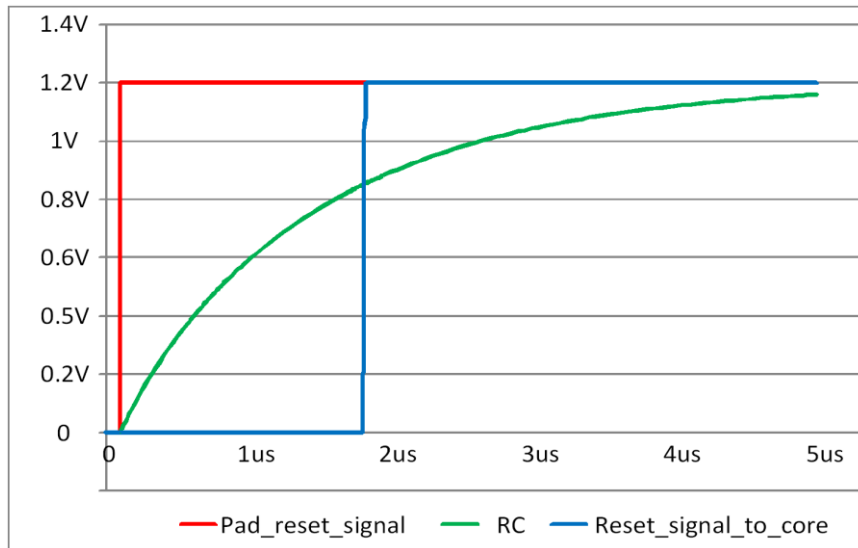

Figure 13: RST Pad Latency
The DA14585 comprises an RST pad which is active high. It contains an RC filter for spikes suppression with 400 kΩ and 2.8 pF for the resistor and the capacitor respectively. It also contains a 25 kΩ pull-down resistor. This pad should be connected to ground if not needed by the application. The response is illustrated in the Figure 13 which displays the voltage (V) on the vertical axis and the time (μs) on the horizontal axis: